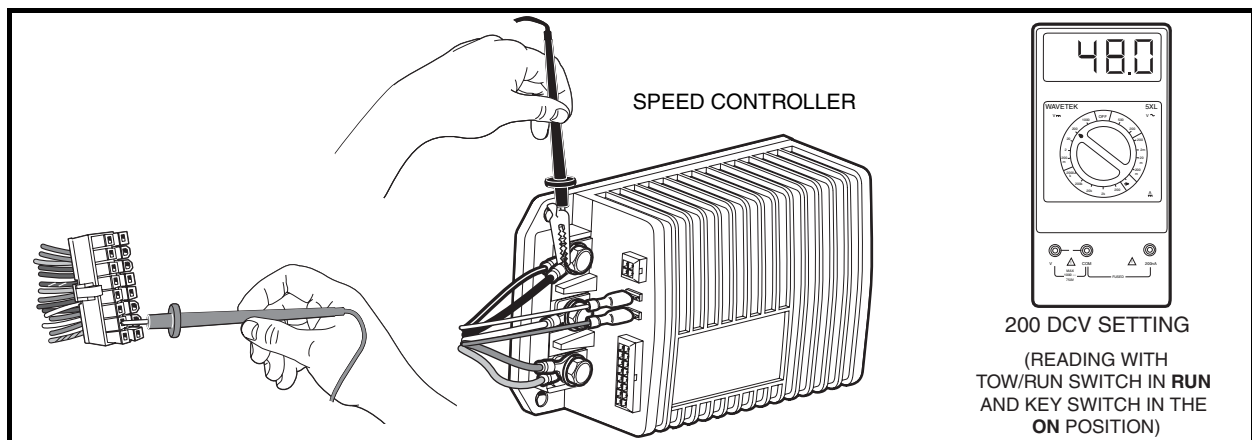

Figure 11-18 Pin 10 Test
4. With a multimeter set for 200 volts DC, insert the red (+) probe of the multimeter into pin 10 (tan wire) of the 16-pin connector. See following **CAUTION.** With an alligator clip, connect the black (–) probe to the B– terminal of the speed controller (**Figure 11-18, Page 11-30**).